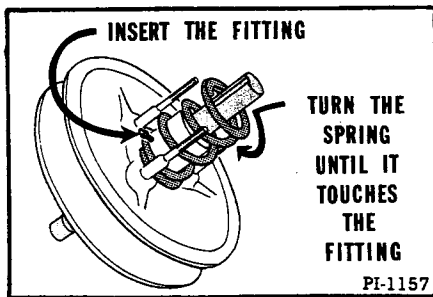

Fig. 51 Insert The Grease Fitting
9. Insert the grease fitting (Figure 51).
7. Insert the grease fitting (Figure 51). The grease fitting must be slotted relief type to prevent overgreasing and seal damage.